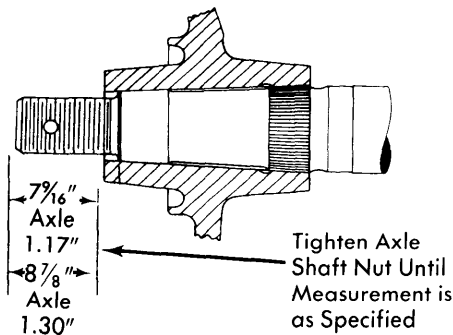

Fig. 2 Hub Installation Measurements
2) Tighten axle shaft nut until distance from hub outer face to axle shaft outer end is  $1\frac{3}{16}$ " on the  $7\frac{7}{16}$ " axle and  $1\frac{1}{16}$ " on the  $8\frac{7}{8}$ " axle (refer to Fig. 2). Remove axle shaft nut and one thrust washer, then reinstall nut and tighten. If cotter pin hole is not aligned, tighten nut to align hole (do not loosen). Install cotter pin.